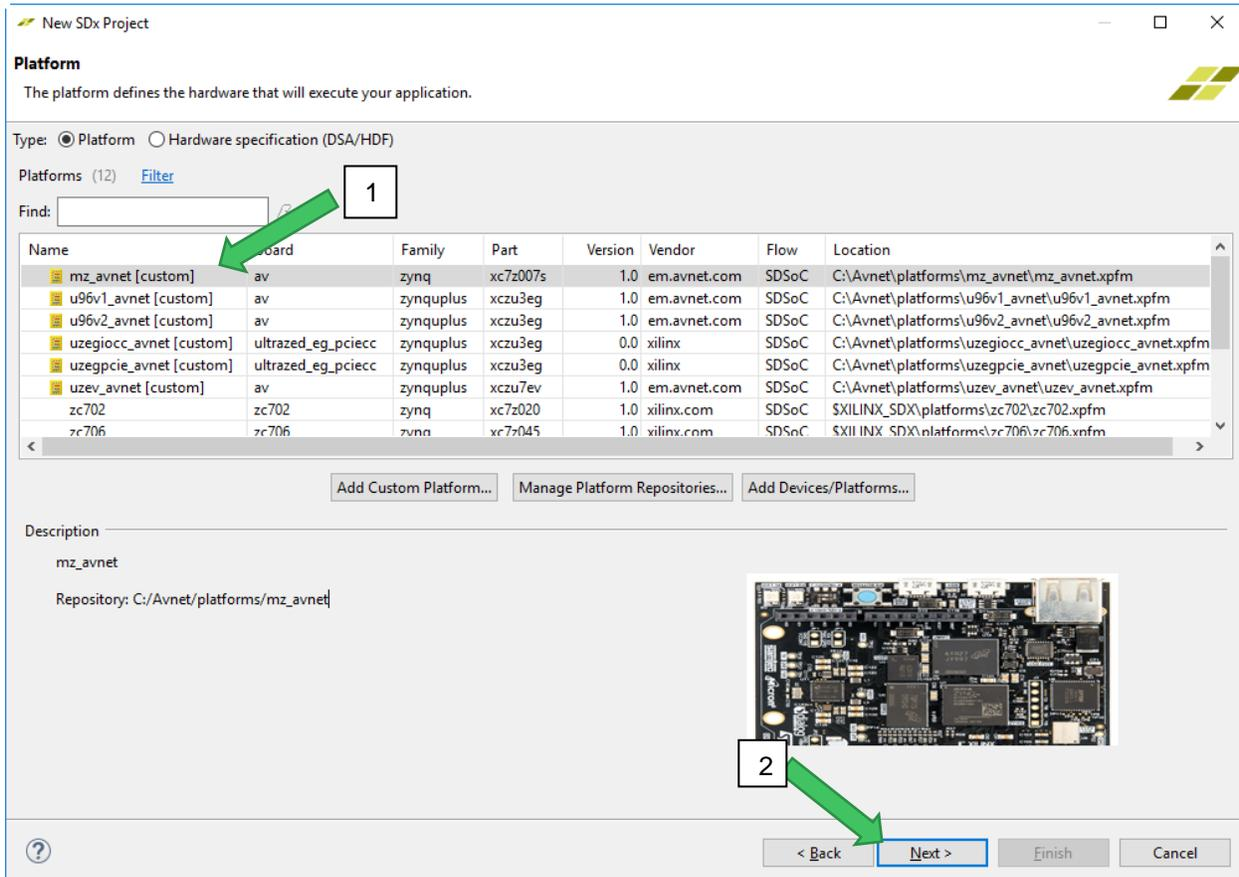

Figure 18 – Choose mz_avnet Hardware Platform
17. Select the provided Xilinx Matrix Multiply example as shown in Figure 18